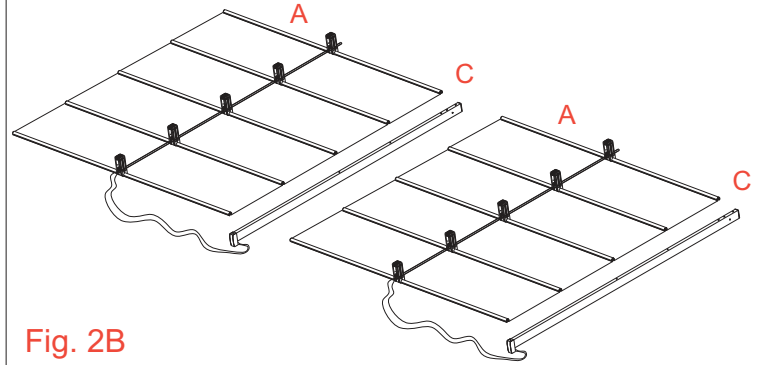

Fig. 2B
(Fig. 2B) Nr 2 **sliding canopies (A)** with the **crossbar (C)**